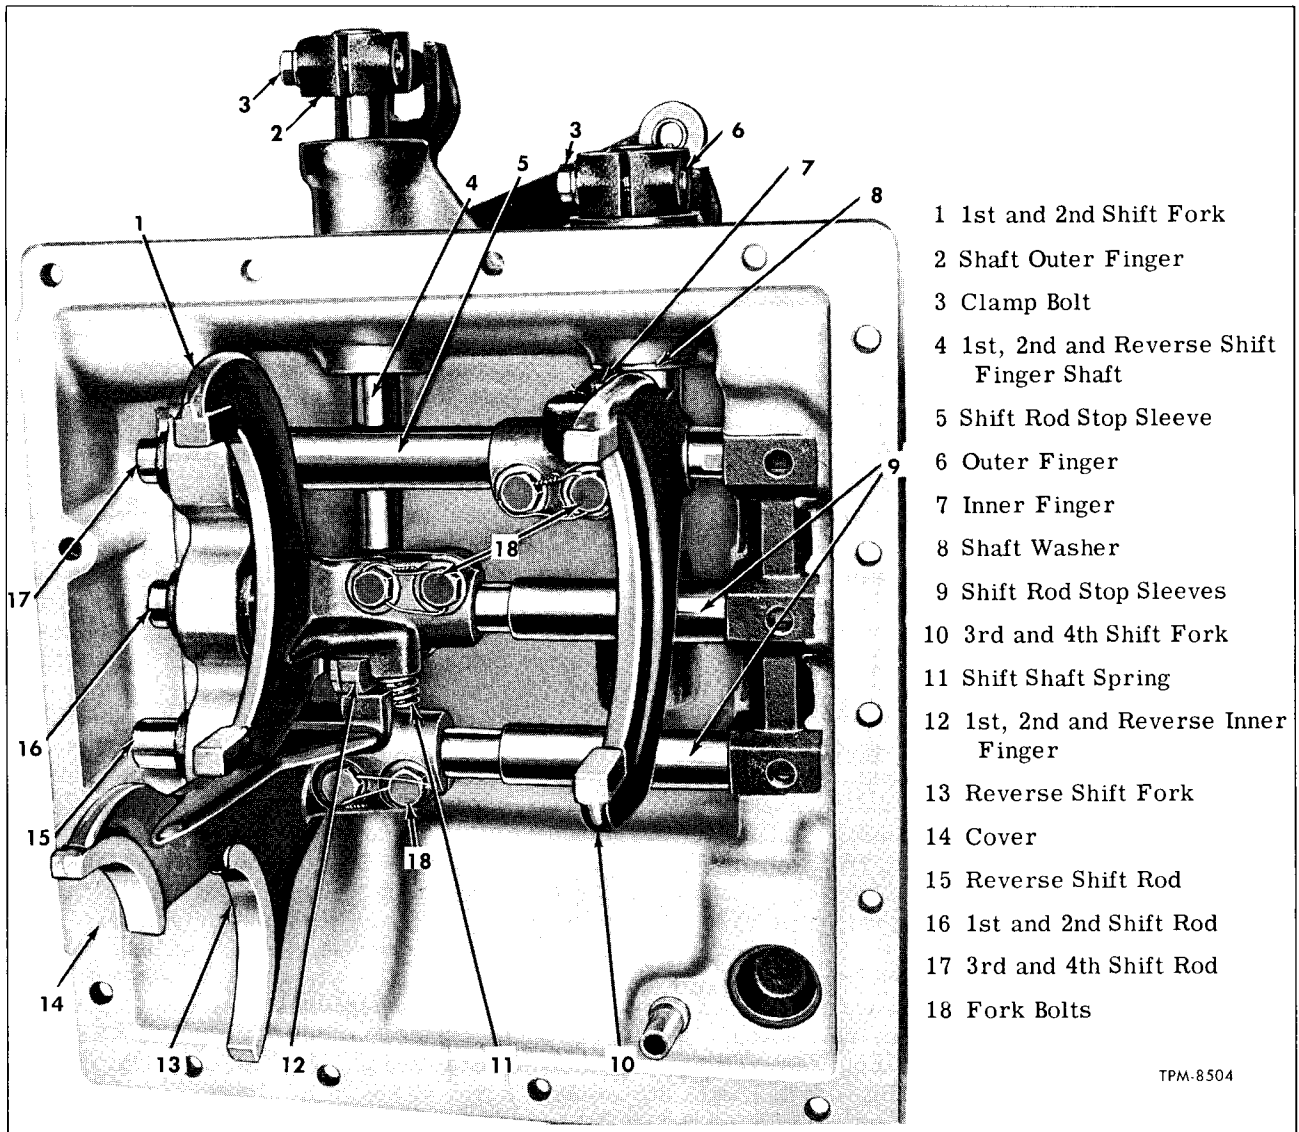

Figure 15—Transmission Cover With Forks and Shifting Mechanism
Key numbers in text refer to figure 15 unless otherwise indicated.
Key numbers in text refer to figure 15 unless otherwise specified.
3. Position cover assembly up-side-down, then drop 3rd and 4th shift rod poppet spring, plunger, and ball through hole in shift rod boss. Hold poppet ball down and insert 3rd and 4th shift rod (17) through hole in front of cover. When end of shift rod is through front support, hold shift fork (10) in cover and push shift rod through fork. Assemble stop sleeve (5) on rod, and move rod into position in cover. Notches in shift rod must be aligned with clamp bolt holes in fork (10) and inner finger (7) must engage notch in shift rod lug. Install two clamp bolts (18), tighten bolts firmly and secure with lock wire.
4. Place one interlock in hole between rods (16 and 17). Install spring, plunger, and poppet ball in center poppet hole, then install 1st and 2nd shift rod (16), stop sleeve (9), and shift fork (1) in position shown in figure 15. Inner finger (12) must engage notch in lug on fork (1). Install and tighten two fork clamp bolts (18) and secure with lock wire.
5. Place one interlock between rods (15 and 16) and move rods (16 and 17) to neutral position (poppet ball engaging center notch), then install spring, plunger, and poppet ball in poppet hole at reverse shift rod. Install reverse shift rod (15) assembling stop sleeve (9) and shift fork (13) on rod as it is moved into place. Install and tighten two clamp bolts (18) and secure with lock wire.